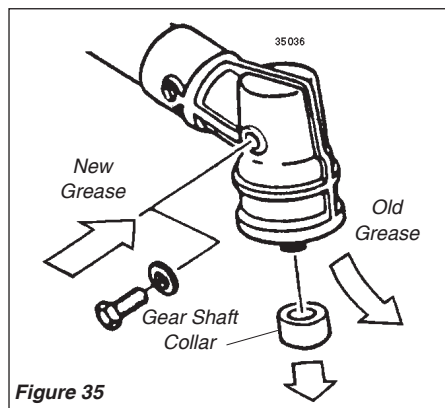

Figure 35
- Remove the cutting attachment, holder and the gear shaft collar. Remove the filler plug from the side of the gearcase and press new grease into the gearcase until the old grease has been pushed out. Use only lithium-base grease such as Shindaiwa Gearcase Lubricant or equivalent. See Figure 35.